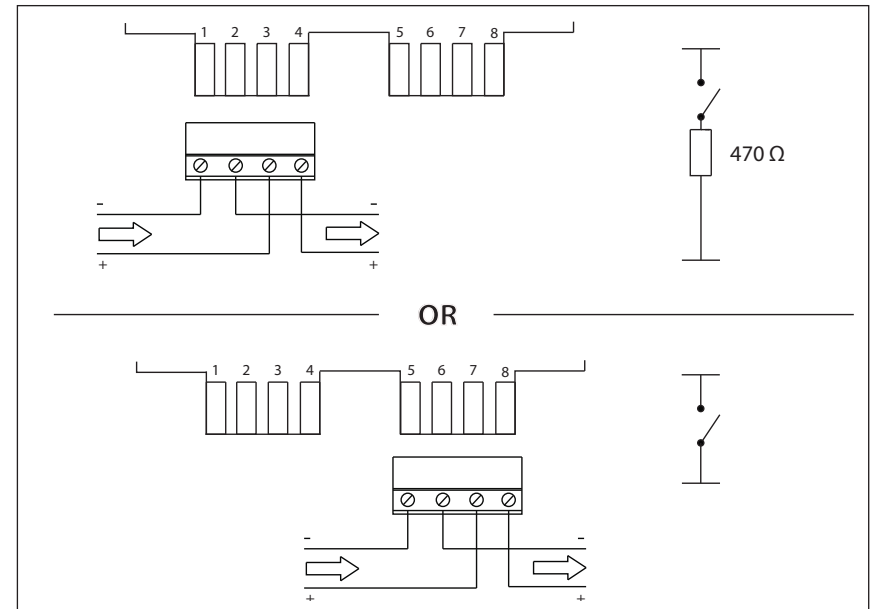

Fig 2 Terminal block connections
2. Run the cables into the backbox and connect them to the terminal block as shown in **Fig 2**. Ensure that functional earth/screen continuity is maintained.
3. Unlock the small front cover by inserting the forked key and pushing it home. Remove key, slide the cover down and remove the deformable element. Connect the terminal block as shown in Fig. 2, secure the call point to the backbox and refit the deformable element as required. Finally, replace the front cover in the reverse order in which it was removed and push it up until it locks.